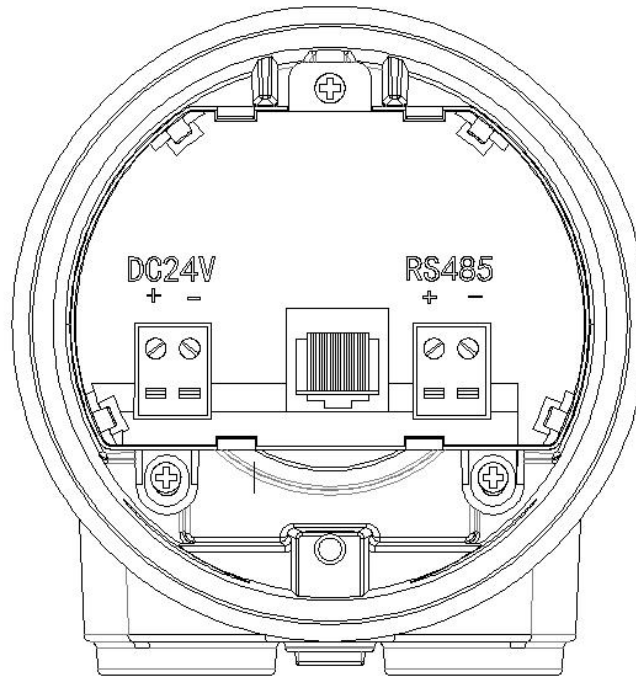

Figure 2 Radar Level Transmitter interface figure
- Radar Level Transmitter interface figure is shown as in Figure 2.